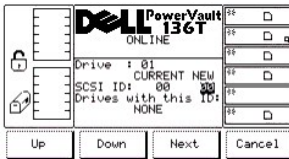

Figure 71. Setup > Drives > SCSI > SCSI ID New Dialog
- 1 If the button beneath the **Next** softkey is pressed the next field in the list is made the active field. Refer to Figure 71.